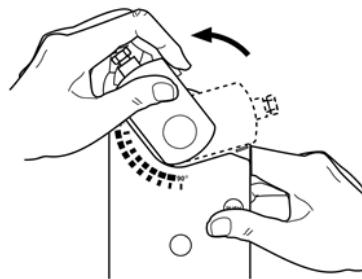

Figure 13
2. Figure 13. Hold down the PUSH button and rotate the shaft adapter to the left until it stops.